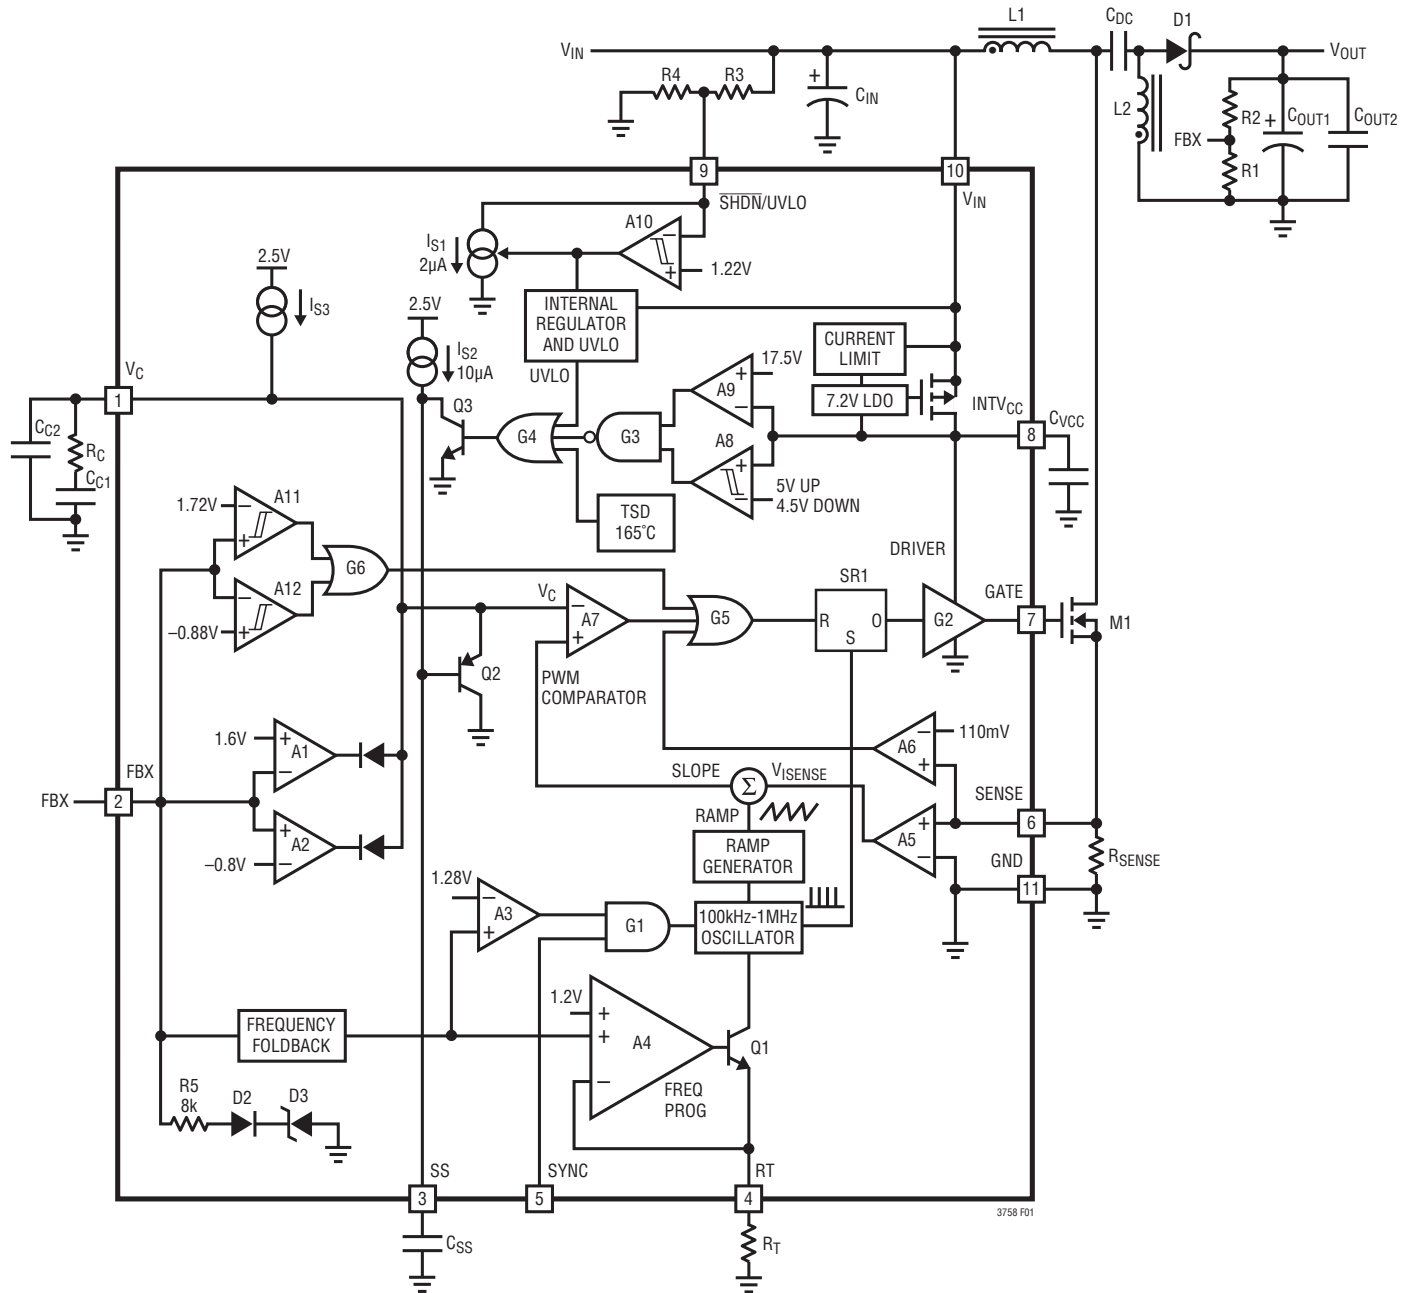

Figure 1. LT3758 Block Diagram Working as a SEPIC Converter
The LT3758 uses a fixed frequency, current mode control scheme to provide excellent line and load regulation. Operation can be best understood by referring to the Block Diagram in Figure 1.
The LT3758 is capable of generating either positive or negative output voltage with a single FBX pin. It can be configured as a boost, flyback or SEPIC converter to generate positive output voltage, or as an inverting converter to generate negative output voltage. When configured as a SEPIC converter, as shown in Figure 1, the FBX pin is pulled up to the internal bias voltage of 1.6V by a voltage divider (R1 and R2) connected from V_{OUT} to GND. Comparator A2 becomes inactive and comparator A1 performs the inverting amplification from FBX to V_C . When the LT3758 is in an inverting configuration, the FBX pin is pulled down to -0.8V by a voltage divider connected from V_{OUT} to GND. Comparator A1 becomes inactive and comparator A2 performs the noninverting amplification from FBX to V_C .
The purpose of this current is to allow the user to program the rising hysteresis. The Block Diagram of the comparator and the external resistors is shown in Figure 1. The typical falling threshold voltage and rising threshold voltage can be calculated by the following equations:
An internal, low dropout (LDO) voltage regulator produces the 7.2V INTV_{CC} supply which powers the gate driver, as shown in Figure 1. The LT3758 contains an undervoltage lockout comparator A8 and an overvoltage lockout comparator A9 for the INTV_{CC} supply. The INTV_{CC} undervoltage (UV) threshold is 4.5V (typical), with 0.5V hysteresis, to ensure that the MOSFETs have sufficient gate drive voltage before turning on. The logic circuitry within the LT3758 is also powered from the internal INTV_{CC} supply.
The choice of operating frequency may be determined by on-chip power dissipation, otherwise it is a trade-off between efficiency and component size. Low frequency operation improves efficiency by reducing gate drive current and MOSFET and diode switching losses. However, lower frequency operation requires a physically larger inductor. Switching frequency also has implications for loop compensation. The LT3758 uses a constant-frequency architecture that can be programmed over a 100kHz to 1000kHz range with a single external resistor from the R_T pin to ground, as shown in Figure 1. The R_T pin must have an external resistor to GND for proper operation of the LT3758. A table for selecting the value of R_T for a given operating frequency is shown in Table 1.
The output voltage V_{OUT} is set by a resistor divider, as shown in Figure 1. The positive and negative V_{OUT} are set by the following equations:
In the applications where V_{OUT} is pulled up by an external positive power supply, the FBX pin is also pulled up through the R2 and R1 network. Make sure the FBX does not exceed its absolute maximum rating (6V). The R5, D2, and D3 in Figure 1 provide a resistive clamp in the positive direction. To ensure FBX is lower than 6V, choose sufficiently large R1 and R2 to meet the following condition:
The LT3758 addresses this mechanism with the SS pin. As shown in Figure 1, the SS pin reduces the power MOSFET current by pulling down the V_C pin through Q2. In this way the SS allows the output capacitor to charge gradually toward its final value while limiting the start-up peak currents. The typical start-up waveforms are shown in the Typical Performance Characteristics section. The inductor current I_L slewing rate is limited by the soft-start function.
load transient response, when compared to the LT3758. New internal circuits ensure that the transient from not switching to switching at high current can be made in a few cycles. The optimum values depend on the converter topology, the component values and the operating conditions (including the input voltage, load current, etc.). To compensate the feedback loop of the LT3758/LT3758A, a series resistor-capacitor network is usually connected from the V_C pin to GND. Figure 1 shows the typical V_C compensation network. For most applications, the capacitor should be in the range of 470pF to 22nF, and the resistor should be in the range of 5k to 50k. A small capacitor is often connected in parallel with the RC compensation network to attenuate the V_C voltage ripple induced from the output voltage ripple through the internal error amplifier. The parallel capacitor usually ranges in value from 10pF to 100pF. A practical approach to design the compensation network is to start with one of the circuits in this data sheet that is similar to your application, and tune the compensation network to optimize the performance. Stability should then be checked across all operating conditions, including load current, input voltage and temperature.